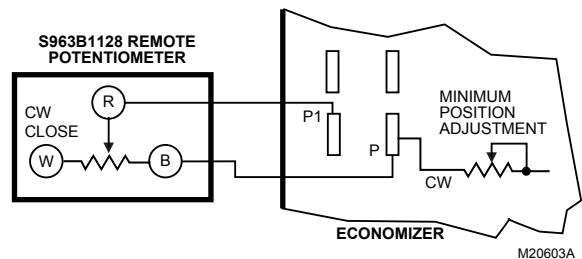

Fig. 5. S963B1128 Remote Potentiometer used with logic module for remote damper control.
Remote control of outdoor air dampers is desirable when requiring temporary additional ventilation. The addition of a S963B1128 Remote Potentiometer allows occupants to open or close the dampers beyond minimum position for modified ventilation. Connect the potentiometer as shown in Fig. 5.
4. Ensure that either the factory-installed jumper is in place across terminals P and P1 or, if remote damper position is required, that it is wired according to Fig. 5 and turned fully clockwise.